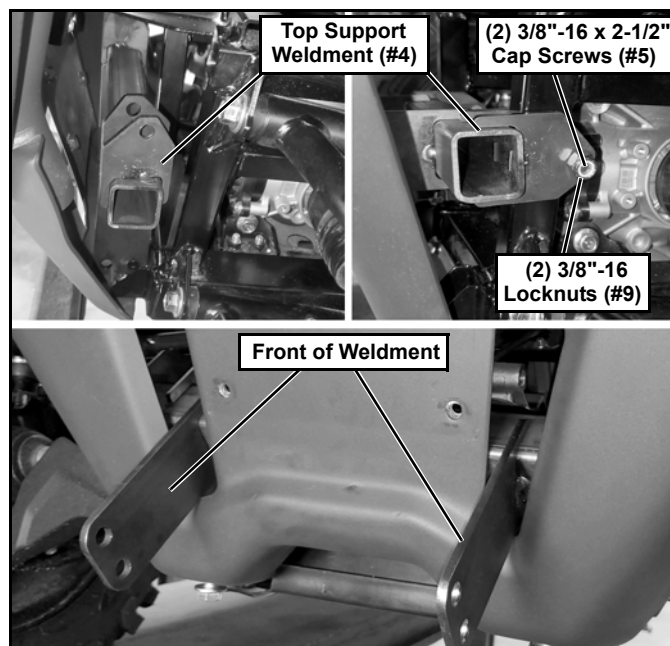

Figure 2
2. Slide the Top Support Weldment (#4) behind the brush guard and twist into position so the front of the weldment sticks through the opening in the brush guard. Mount the back of the Top Support Weldment (#4) to the angled UTV frame and secure with (2) 3/8"-16 x 2-1/2" Cap Screws (#5) and (2) 3/8"-16 Locknuts (#9) (See Figure 2).